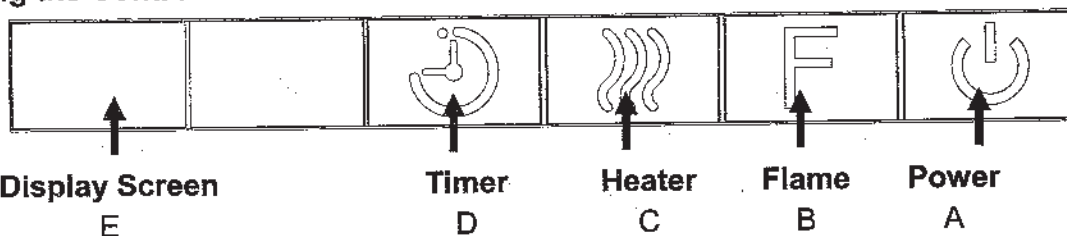

Figure 6
### Power(Figure 6.A):
### Flame(Figure 6.B):
### Heater(Figure 6.C):
Press once to activate the Low Heat Setting (L) , presss the button the Second time to activate the High Heat Setting(H), and the Third time to activate the "Auto" function(A), after that the thermostat starts to work and to setup desired setting before the BLUE indicator light fading away;the highest temperature of thermostat is 95° F and the lowest is 65° F. Once activate the HEATER , the display screen(Figure 6.E), will display the heater setting in using accordingly shortly. You may turn off the HEATER by this button as well.
### Timer(Figure 6.D):